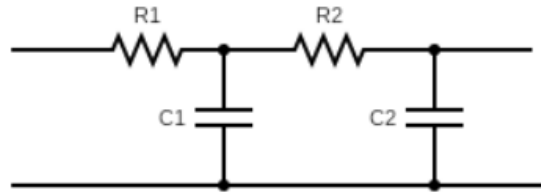

Figure 2: Simple Passive Filter
1. **Question:** For the circuit shown in Figure 2, calculate the following parameters:
- b. Quality factor (Q)